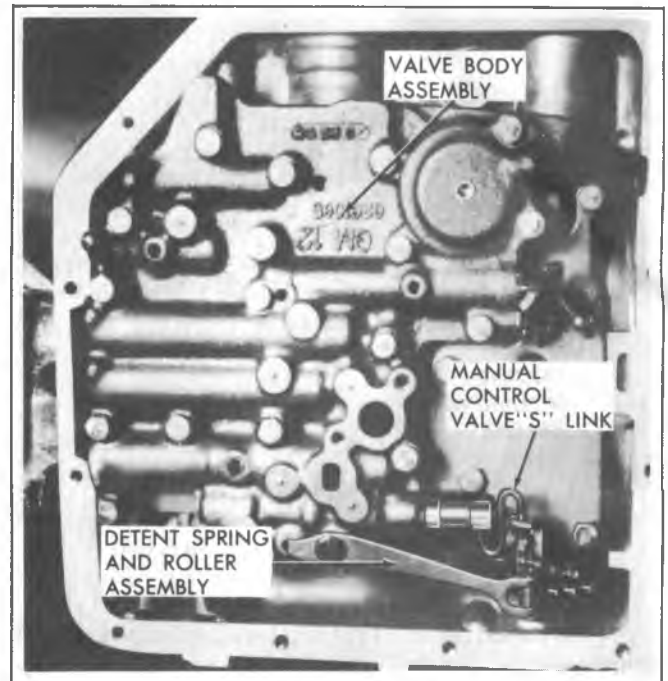

Fig. 7A-20--Detent Spring/Valve Body
3. Remove detent spring and roller assembly from valve body and remove valve body-to-case bolts. See Figure 7A-20.